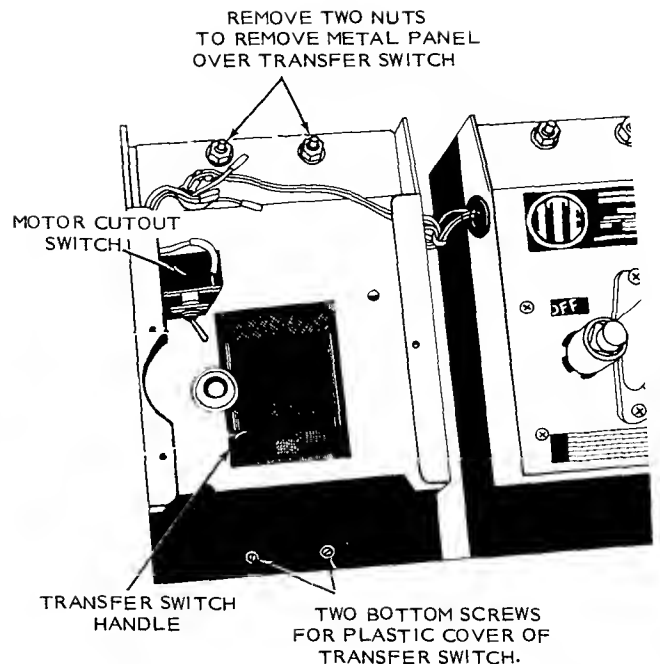

FIGURE 22. TRANSFER SWITCH WITH GEAR AND DRIVE ASSEMBLY REMOVED
16. Remove the two nuts with an 11/16-inch wrench and remove the motor assembly or sheet metal panel over the transfer switch (Figure 22).